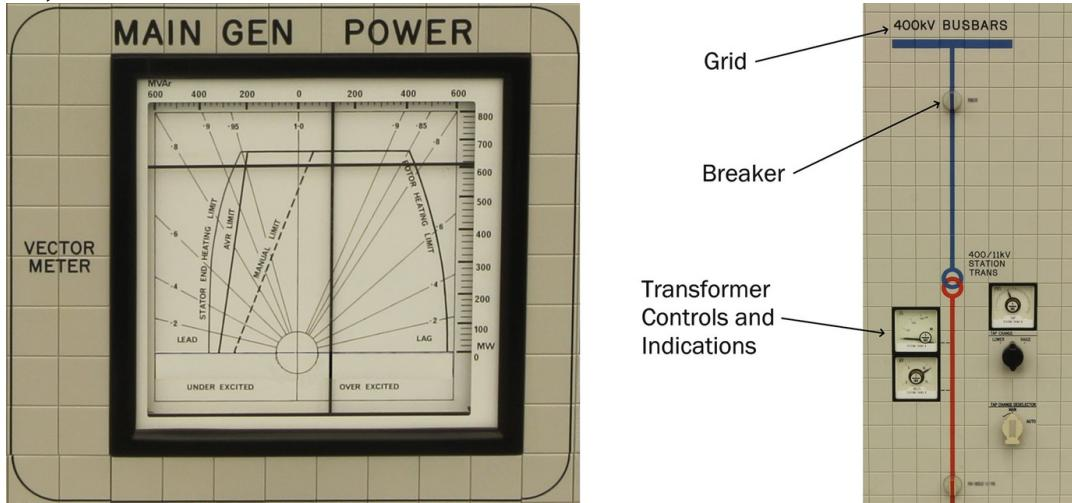

Fig. 11.5 Electrical indications and controls
This book concentrates on driving your reactor, but as you've seen, there's a lot to do on your turbine as well. Figure 11.5 shows you one of the indicators that is (as far as I know) unique to turbine-generators—a vector meter. The vertical axis shows the turbine output in Megawatts (MW). The horizontal axis is more complicated to explain as it shows something the electrical engineers describe as reactive power, measured in Mega-Volts-Amps-Reactive (MVARs). The people who run the grid need to ensure that reactive power is balanced across the system in the same way that they
The right-hand side of Fig. 11.5 shows part of an electrical mimic—in this case, one of the connections between your power station and the electrical grid. The high voltage grid in the UK operates at 400,000 volts (400 kV), so you have transformers to step this down to something more usable at your power station. In this example, a ‘Station Transformer’ steps the 400 kV down to 11 kV. You’ll also hear people talking about ‘Generator Transformers’ (step-up) and ‘Unit Transformers’ (step-down), both usually associated with your turbine-generator.